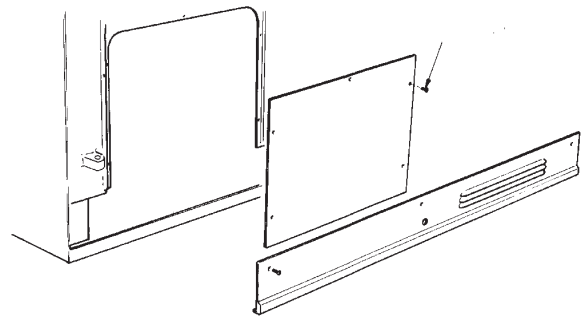

FIG. 5
- SEE FIG. 5
2. Remove (5) inner panel securing screws and remove panel.
3. Remove the (3) plinth securing screws and remove plinth.